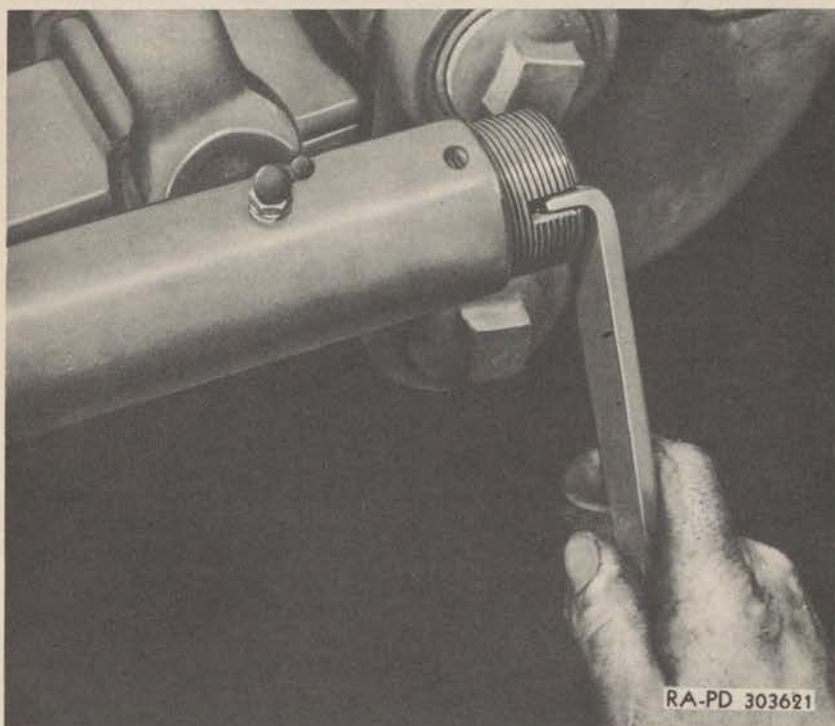

Figure 161—Backing Off Drag Link Bearing Plug
a. **Removal.** Remove the cotter pins from each end of the drag link tube. Using the offset screwdriver, back off the drag link bearing plugs far enough so that the ball seats can be spread a sufficient amount to permit the drag link to be removed from the balls on the steering and Pitman arms (fig. 161). Remove drag link.